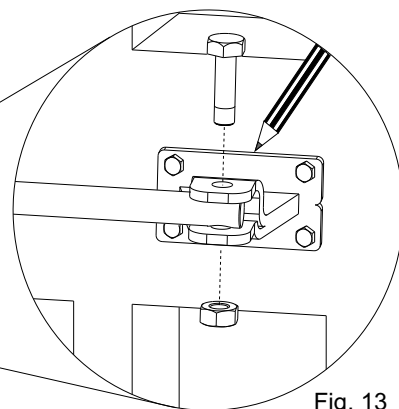

Fig. 13
- 3) Fix the rod on the front fixation (Fig. 13)